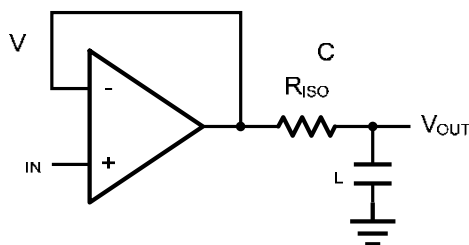
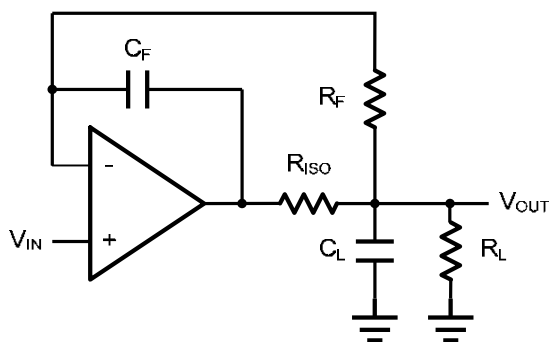

Figure 2 Indirectly Driving a Capacitive Load Using Isolation Resistor
Figure 3. Indirectly Driving a Capacitive Load with DC Accuracy
The AD854X family is optimized for bandwidth and speed, not for driving capacitive loads. Output capacitance will create a pole in the amplifier's feedback path, leading to excessive peaking and potential oscillation. If dealing with load capacitance is a requirement of the application, the two strategies to consider are (1) using a small resistor in series with the amplifier's output and the load capacitance and (2) reducing the bandwidth of the amplifier's feedback loop by increasing the overall noise gain. Figure 2 shows a unity gain follower using the series resistor strategy. The resistor isolates the output from the capacitance and, more importantly, creates a zero in the feedback path that compensates for the pole created by the output capacitance.
The circuit in Figure 3 is an improvement to the one in Figure 2.  $R_F$  provides the DC accuracy by feed-forward the  $V_{IN}$  to  $R_L$ .  $C_F$  and  $R_{ISO}$  serve to counteract the loss of phase margin by feeding the high frequency component of the output signal back to the amplifier's inverting input, thereby preserving the phase margin in the overall feedback loop.